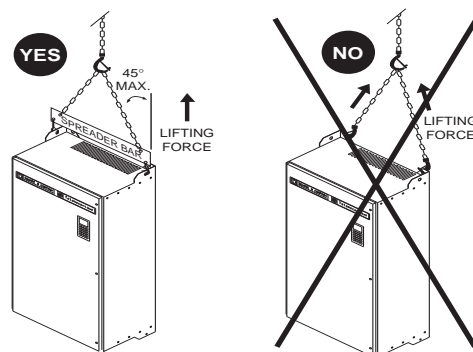

Figure 4: Hoisting AT56D54N4 to D79N4 and ATV56D46M2
- With a hoist, attaching a spreader bar to the two lifting rings on top of the drive controller (see Figure 4) or
Keep area below any equipment being lifted clear of all personnel and property. Use lifting method shown below in Figure 4.
To hoist the drive controller, attach a spreader bar to the two lifting rings on top of the drive controller, as shown in Figure 4. Handle the drive controller carefully to avoid damage to the internal components, frame or exterior. Place the drive controller in an upright position.